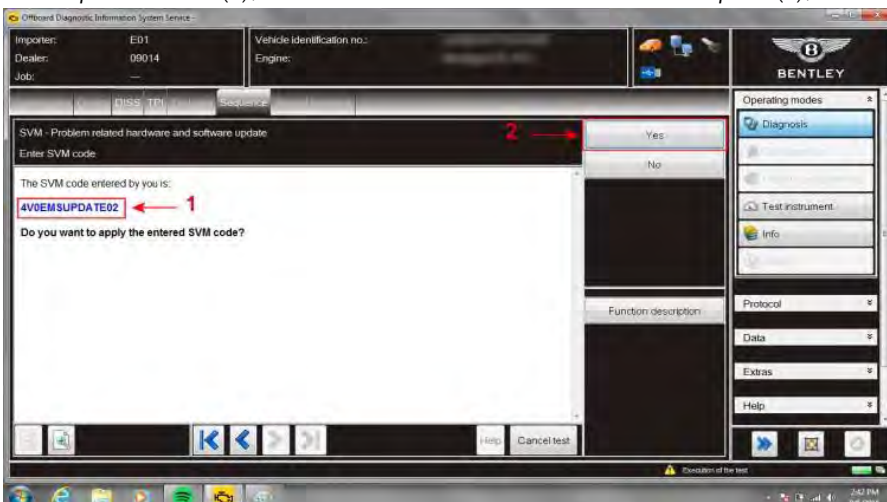

Figure 3
9. At SVM screen enter (1) the specific SVM code 4V0EMSUPDATE02 and then **Yes** (2) (see Figure 3)